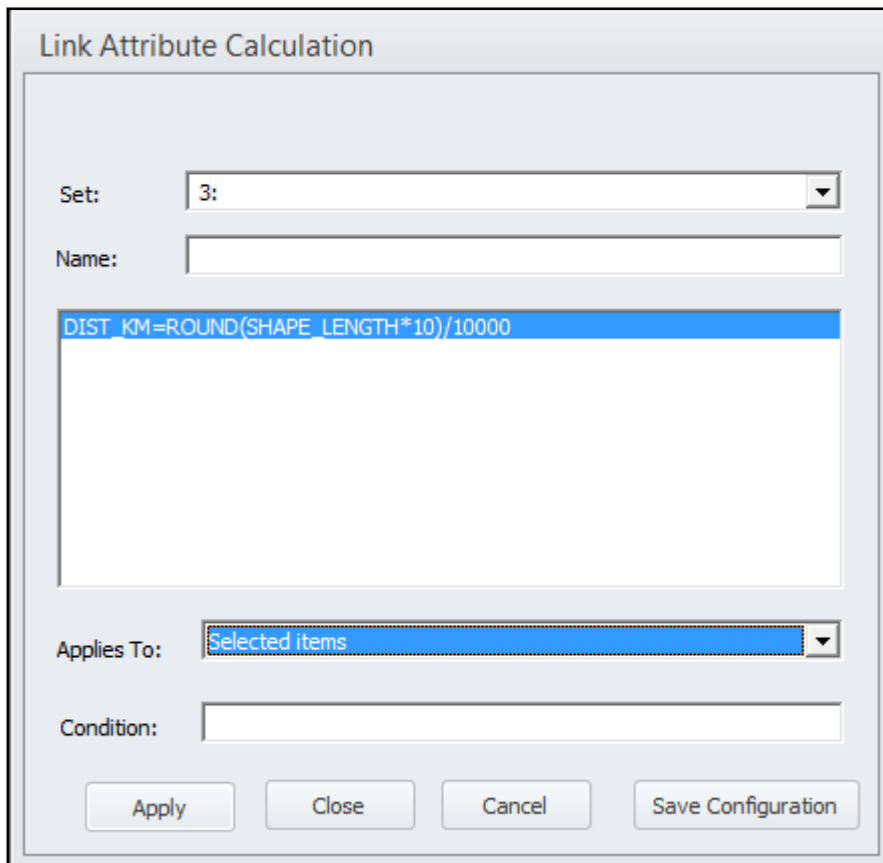

Figure 85 The Link Attribute Calculation window
- p) DIST_KM: update using the SHAPE_LENGTH value using Link -> Compute tool as displayed in Figure 85 (note that "Selected items" must be selected in the "Applies To:" field)